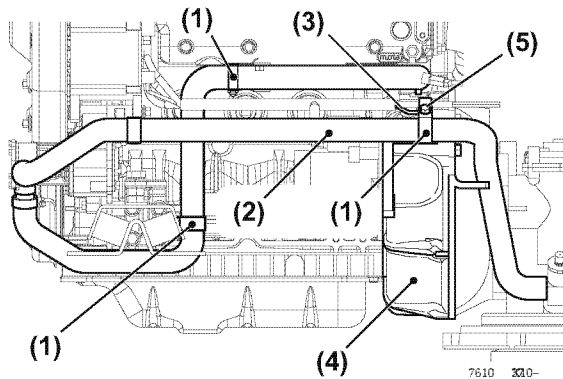

Figure 5-178
- For 4JH5E flywheel housing side seawater pipe, fasten the retainer together with the ground terminal to the flywheel housing by the ground bolt for sail drive and ZF30M (Figure 5-178).